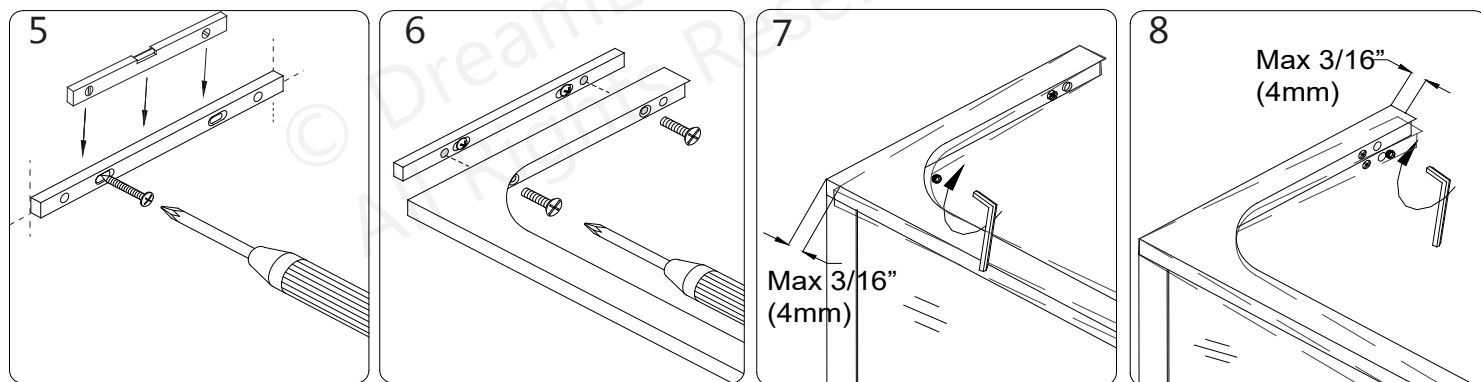

Fig 7
7. Attach the **Wall Plate (#15.6)** to the wall using the **Truss Head Screws ST4.2 x 40 (#15.7)**. Re-attach the **Left-Hand L-Bar™ (#15)** to the **Wall Plate (#15.6)** using the **Flat Head Screw M5x14 (#15.8)**. Adjust the angle if necessary by using the **Wall Plate Adjustment Set Screws (#15.9)**. **(Fig 7)**